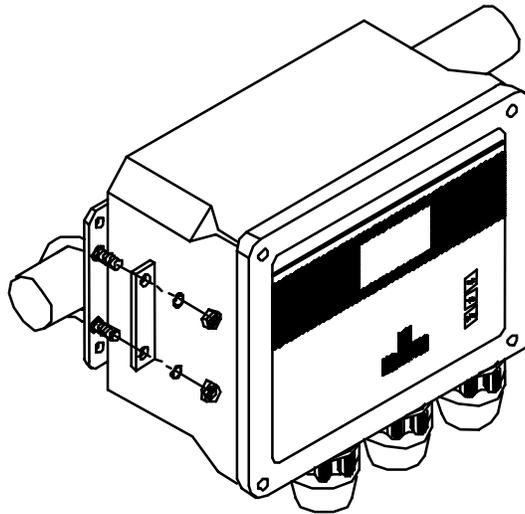

Figure 20
2. Fasten both sides with installed brackets to the railing with the u-bolts, plates, lock-washers, and nuts as shown in Figure 20.